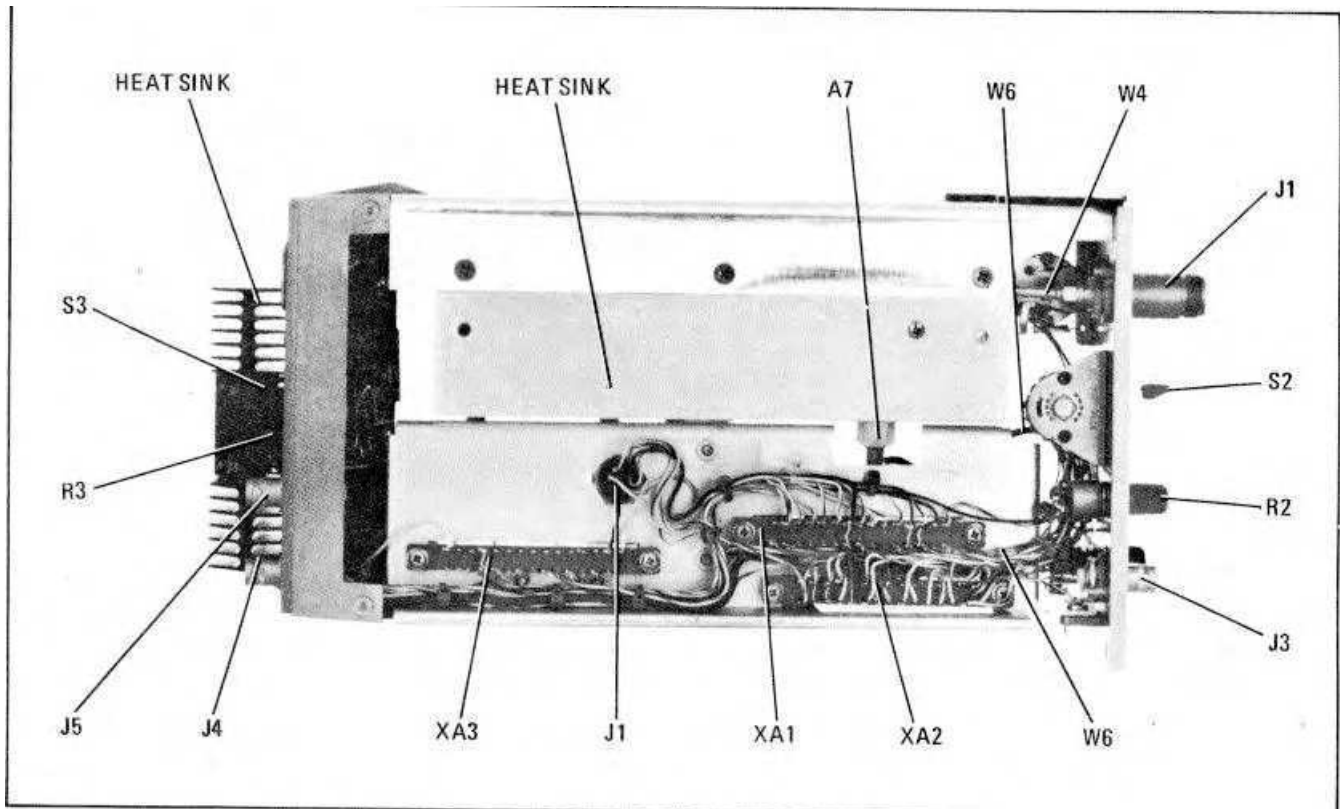

Figure 9-11. Location of Major Assemblies, Bottom View (Option 001)
- Replace Figure 8-21 with Figure 9-11.